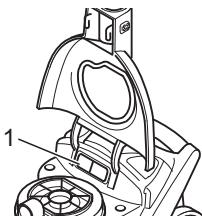

Fig.23
3. Take out the protective motor filter (Fig. 23/1).